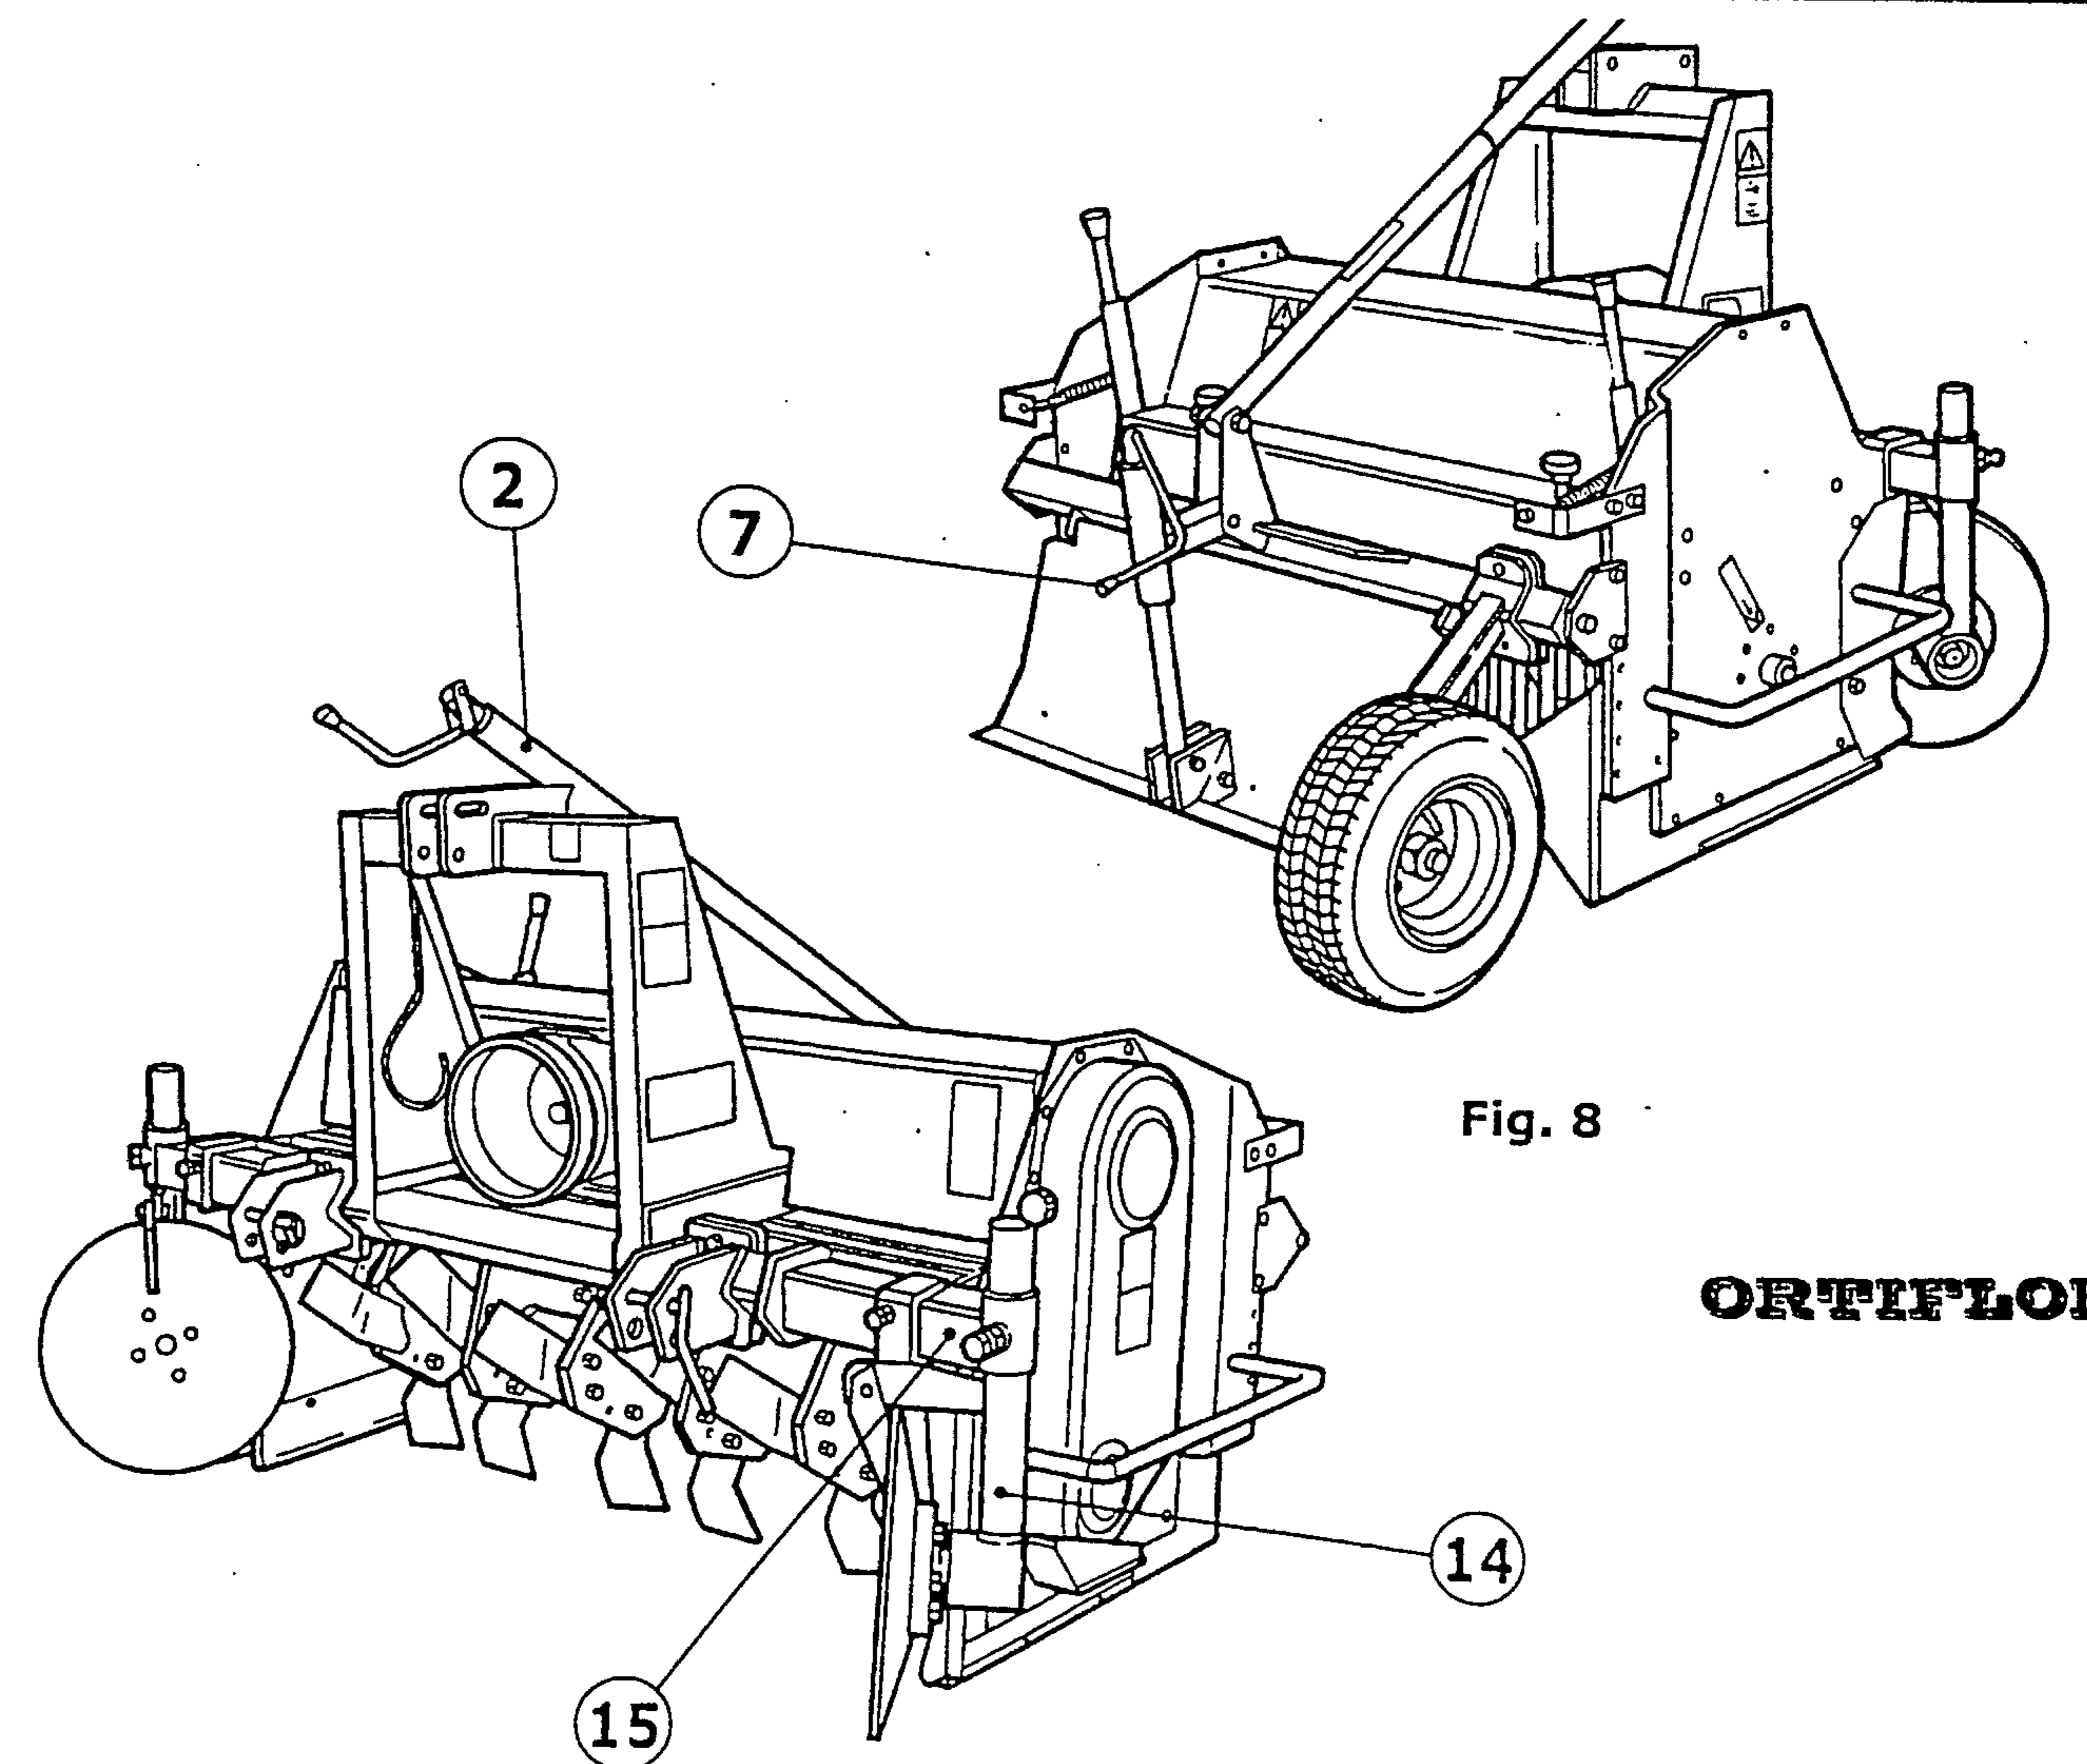

Fig. 8
Adjust the register crank (2 - Fig. 8) and disk support (14) to obtain the required height of the bed, and the telescopic bar (15) to adjust the width of the track.
- Through the adjustment lever (7) adjust the height of the tail gate from the soil until you obtain a level work surface.